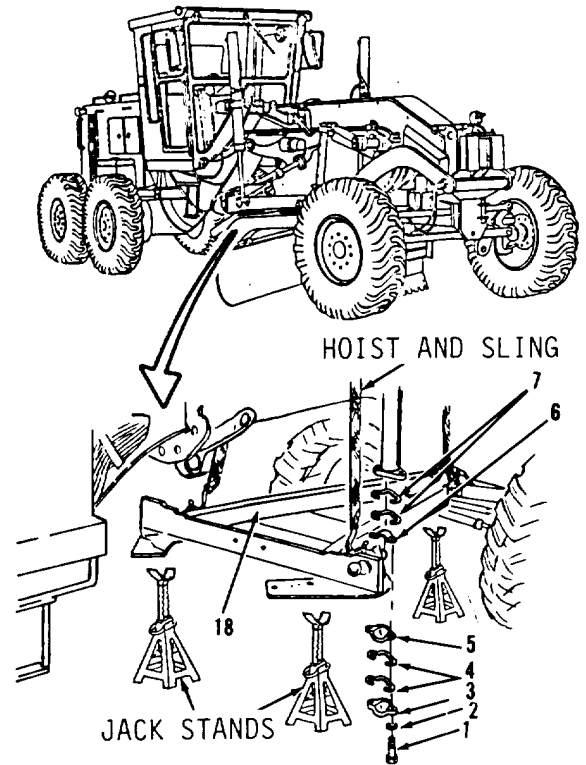

Figure 12-16.
1. Attach hoist and sling to drawbar (18, Figure 12-16) under front of vehicle.
2. Position jack stands under three corners of drawbar (18).